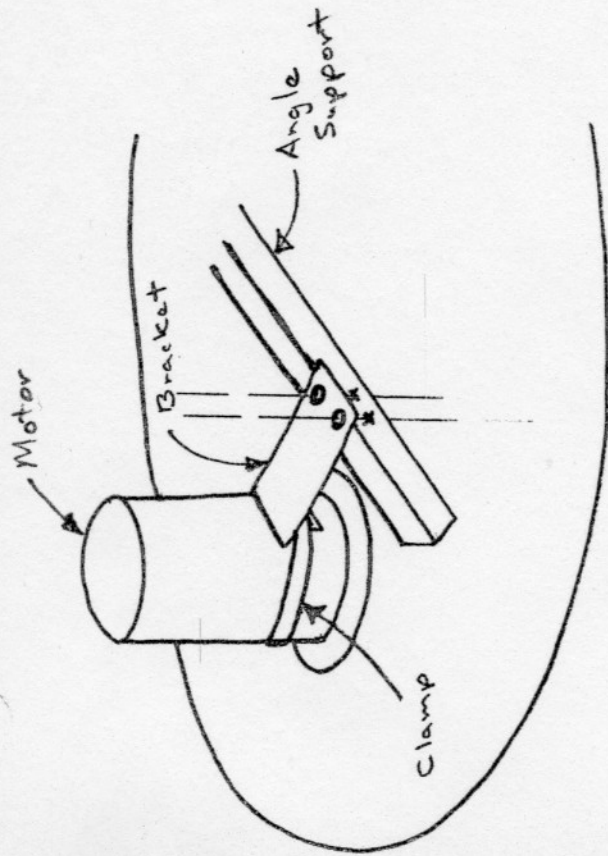

Figure 1A
1. With the mower removed from the tractor, assemble one clamp around the motor near the base. Place a bracket as shown in the Figure 1A and secure with the clamp.